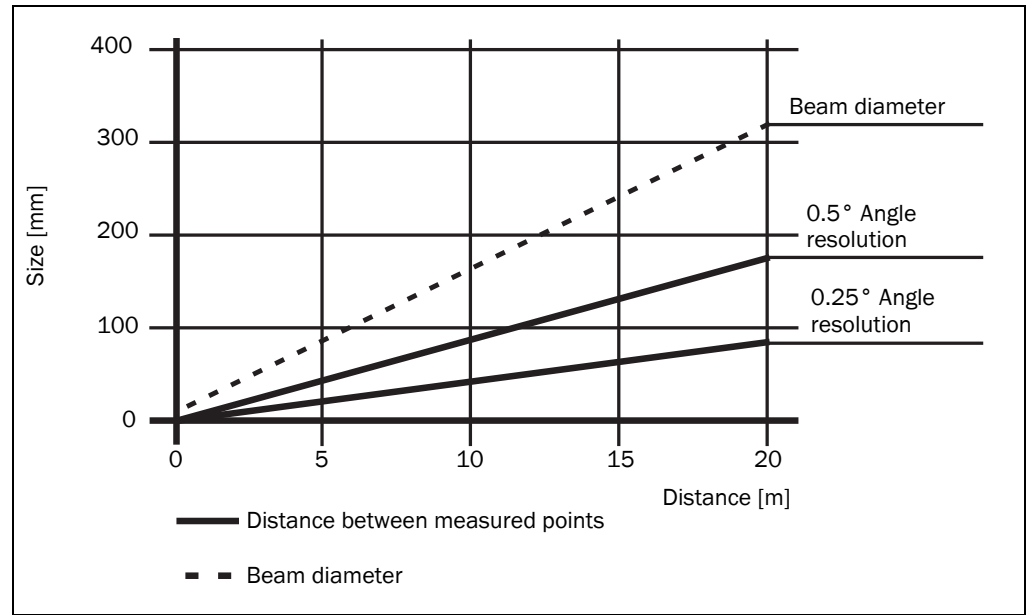

Fig. 16: All LMS1xx variants: Beam diameter and distance between measured points at 0 to 20 m
The diagram in Fig. 16 on page 29 shows the beam diameter and the measured point spacing as a function of the distance from the LMS1xx.
Example for angular resolution 0.25° in Fig. 16
Example for angular resolution 0.50° in Fig. 16
- For beam diameter and measured point spacing as a function of the distance from the LMS1xx see the diagram in Fig. 16 on page 29.